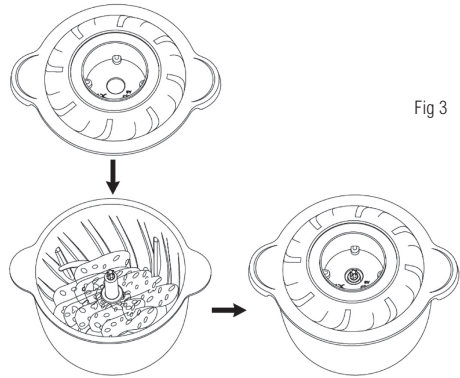

Fig 3
- c) After putting the food, cover the lid as Fig 3.
ASSEMBLE METHOD: Put the side blade unit to the main blade unit (Fig 1 and Fig 2 p. 17), and screw the side blade unit anticlockwise (Fig 3 p. 17), then took off the blade protective sleeve.